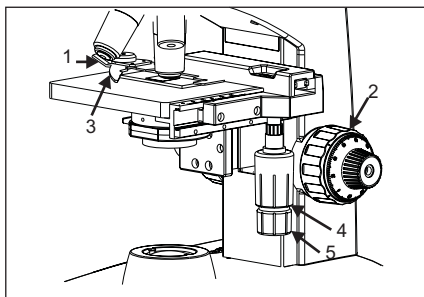

Fig. 16
**Caution:** If the bow-shaped lever (3) is returned with a strong force, the slide glass may break. See figure 16.
1. Rotate the coarse adjustment knob (2) in anticlockwise direction to fully lower the stage.
2. Open the bow-shaped lever (3) outward by pulling lever handle (1), place the specimen by sliding the specimen glass plate(s) on the stage from the front toward the rear.
3. After positioning your specimen slides, return the bow-shaped lever (3) gently by slowly releasing control knob (1).
4. Rotating the upper co-axial knob (4) controls the Y-axis movement and the lower knob(5) controls the X-axis movement.